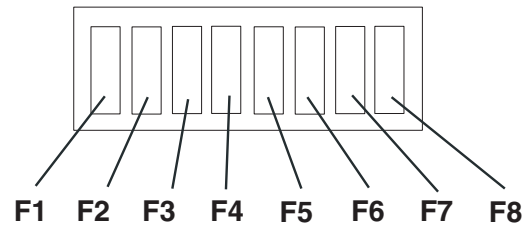
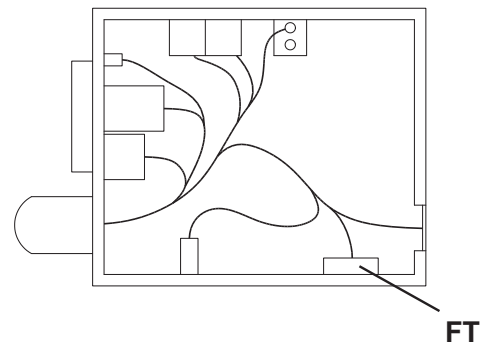

Figure 19
Figure 20
5. Remove the fuse box cover (51).
6. Check/replace the relevant fuse among the following (Fig. 19):
7. Remove the electrical component box cover (55).
8. Check/replace the following fuse (Fig. 20):